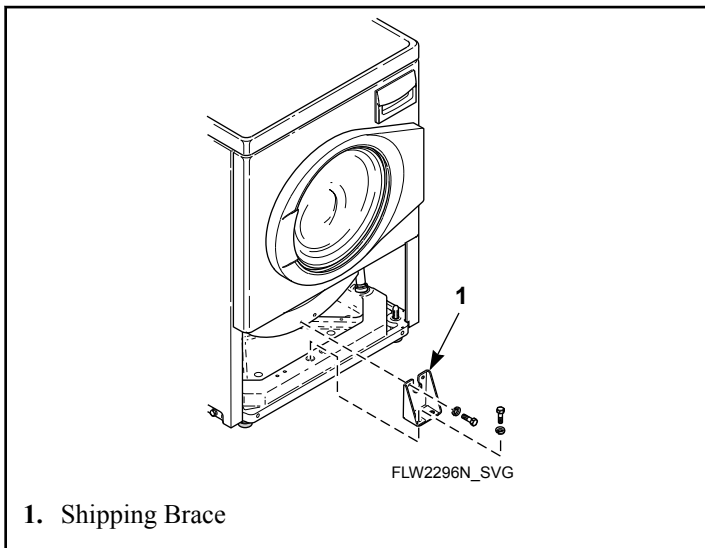

Figure 53
4. Attach shipping brace to weight and base using four bolts and washers. Refer to *Figure 53*.